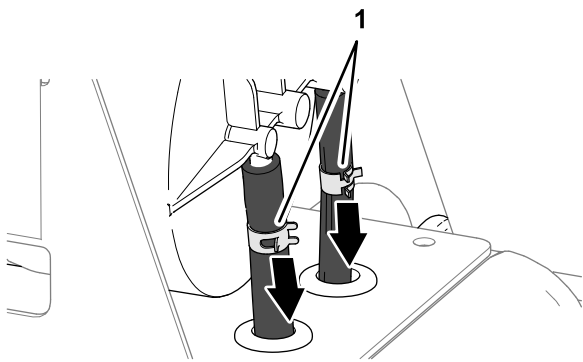

Figure 72
3. Loosen the 2 hose clamps that secure the hoses to the fittings of the carbon canister (Figure 72).